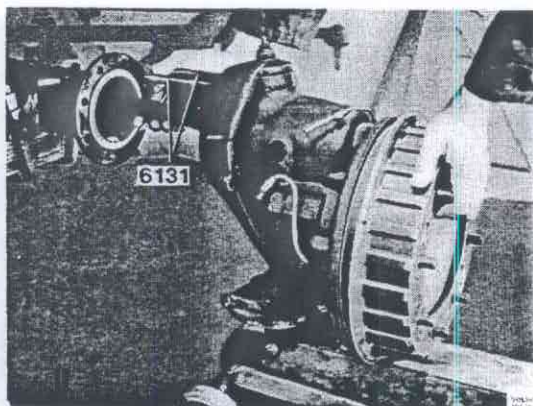

Fig. 46-107. Fitting the wheel carrier
2. Fit the two guide pins 6131 in the upper holes of the steering knuckle support. See Fig. 46-107. Place the wheel carrier on a jack. Jack up the carrier so that the guide pins can fit into the front axle casing.